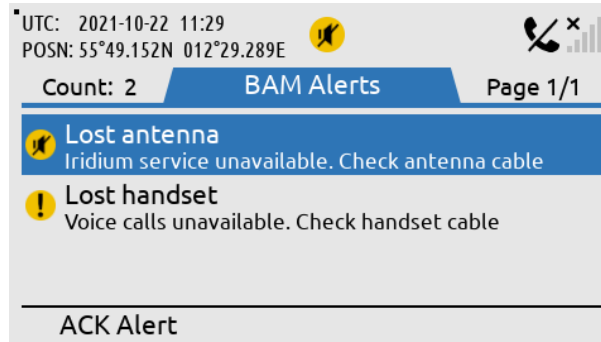

Figure 89: LT-4210 Control Unit (BAM Alerts)
**NOTE:** Active unacknowledged alerts cause a short but periodically repeated audible signal, which can be temporary silences (30 s) by pressing the soft key ‘Silence All’. This temporary silence has been illustrated in Figure 89.